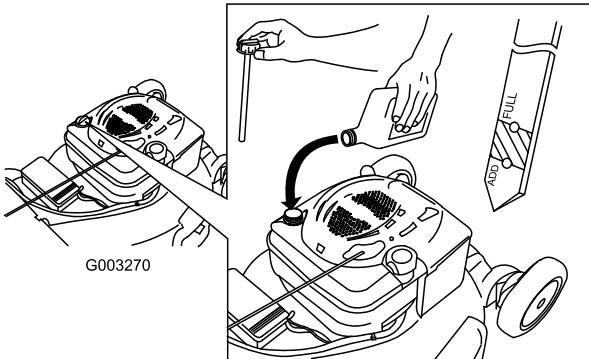

Figure 13
1. Remove the dipstick, wipe it clean, and fully install the dipstick (Figure 13).
2. Remove the dipstick and check the oil level (Figure 13). If the oil level is below the Add mark on the dipstick, slowly pour oil into the oil fill tube to raise the oil level to the Full mark on the dipstick.